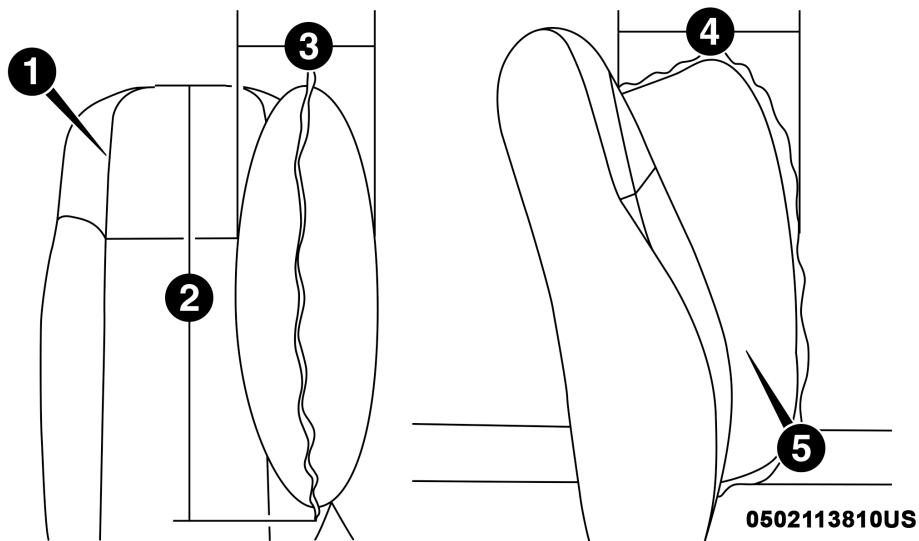

Figure 8 – Supplemental Seat Mounted Side Air Bag Deployment Zone, depicts the following:
4. Supplemental Seat-Mounted Side Air Bag (SAB) Deployment Zone (Figure 8)